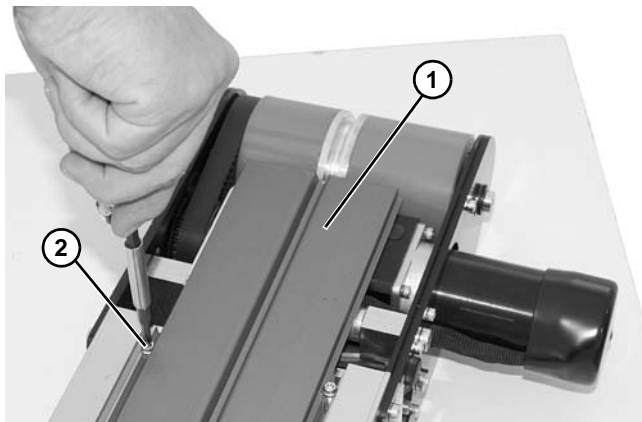

Figure 144
2. Remove wear plate (**Figure 144, item 1**) by removing plate fastening screws (**Figure 144, item 2**) on each side and end of conveyor